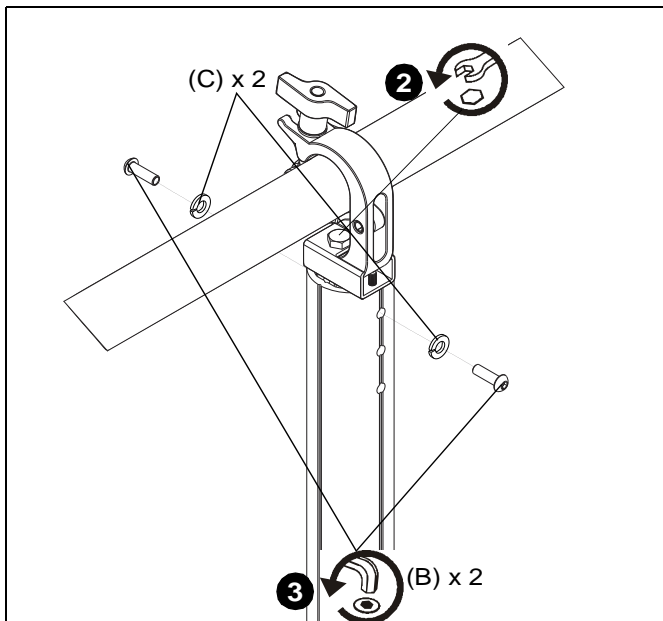

Figure 7
2. Loosen hex head bolt holding pin connector to clamp using 17mm wrench. (See Figure 7)
3. Remove two screws (B) and two lock washers (C) from pipe using M4 hex key (D). (See Figure 7)